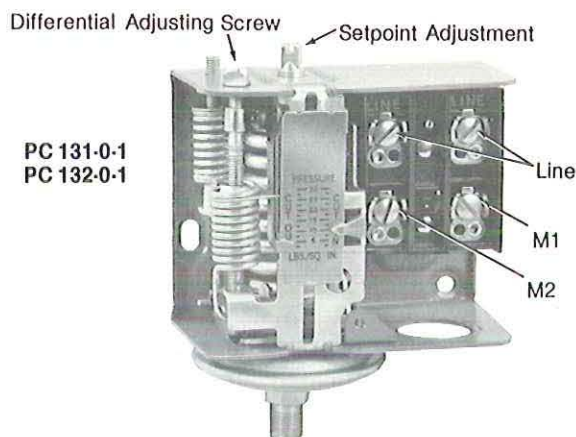

Figure 6
3. PC-131-0-1, PC-132-0-1: The setting of the setpoint adjusting screw (Figure 6) establishes the control operating point on a pressure increase and is indicated by the pointer on the right side (cutout) of the graduated scale. Next, the differential adjusting screw should be turned until the desired switch operating point on a pressure decrease is established (as indicated by the scale pointer on the left).